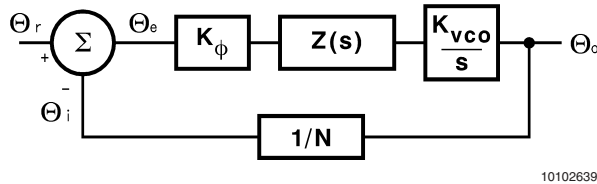
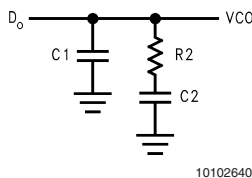

FIGURE 2. PLL Linear Model
FIGURE 3. Passive Loop Filter
A linear control system model of the phase feedback for a PLL in the locked state is shown in Figure 2. The open loop gain is the product of the phase comparator gain ( $K_{\phi}$ ), the VCO gain ( $K_{VCO}/s$ ), and the loop filter gain  $Z(s)$  divided by the gain of the feedback counter modulus ( $N$ ). The passive loop filter configuration used is displayed in Figure 3, while the complex impedance of the filter is given in Equation (2).